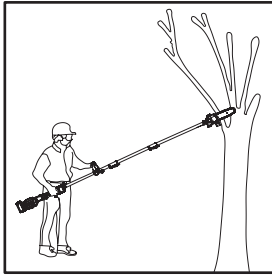

Fig. 45
1. Make sure that the guide bar cover (24) is removed, and the battery pack (40) is assembled before operation.
2. Assemble the extension pole (5) for long reach if necessary.
3. Always hold the product firmly with both hands on main handle (11) and the auxiliary handle (7). Never operate this product using only one hand (Fig. 45).